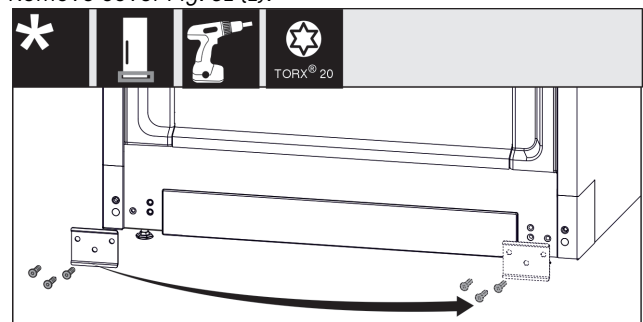

Fig. 32
- ▶ Unscrew the plate Fig. 32 (1), move it to the other side and screw it back on.
- ▶ Place the swap bearing block on the other side and use a screwdriver to screw it on. Start with the screw (2) at the bottom in the middle.
- ▶ Tighten screw (3) and screw (4).
- ▶ Insert the bearing bolt (5) completely. Ensure that the latching cam is pointing towards the rear.